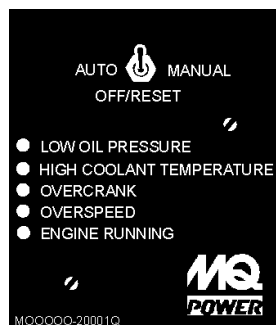

Figure 9. Engine Controller Module
10. **Engine Controller (for S/N 3696510~)** – The engine controller as a vertical row of status LED's (Figure 9), that when lit, indicate that an engine malfunction (fault), has been detected. When a fault has been detected the engine controller will evaluate the fault and if the fault is major will shutdown the generator.